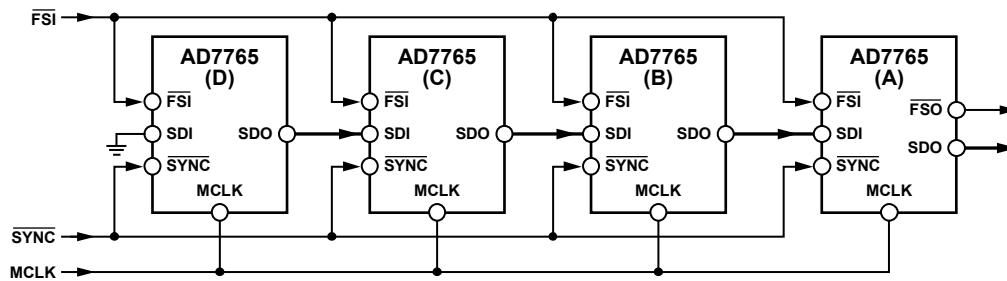

Figure 34. Daisy-Chaining Four Devices in Decimate 128x Mode Using a 40 MHz MCLK Signal
The block diagram in Figure 34 shows how to connect devices to achieve daisy-chain functionality. Figure 34 shows four AD7765 devices daisy-chained together with a common MCLK signal applied.
Referring to Figure 34, note that the SDO line of AD7765 (A) provides the output data from the chain of AD7765 converters. Also, note that for the last device in the chain, AD7765 (D), the SDI pin is connected to ground. All of the devices in the chain must use common MCLK and SYNC signals.